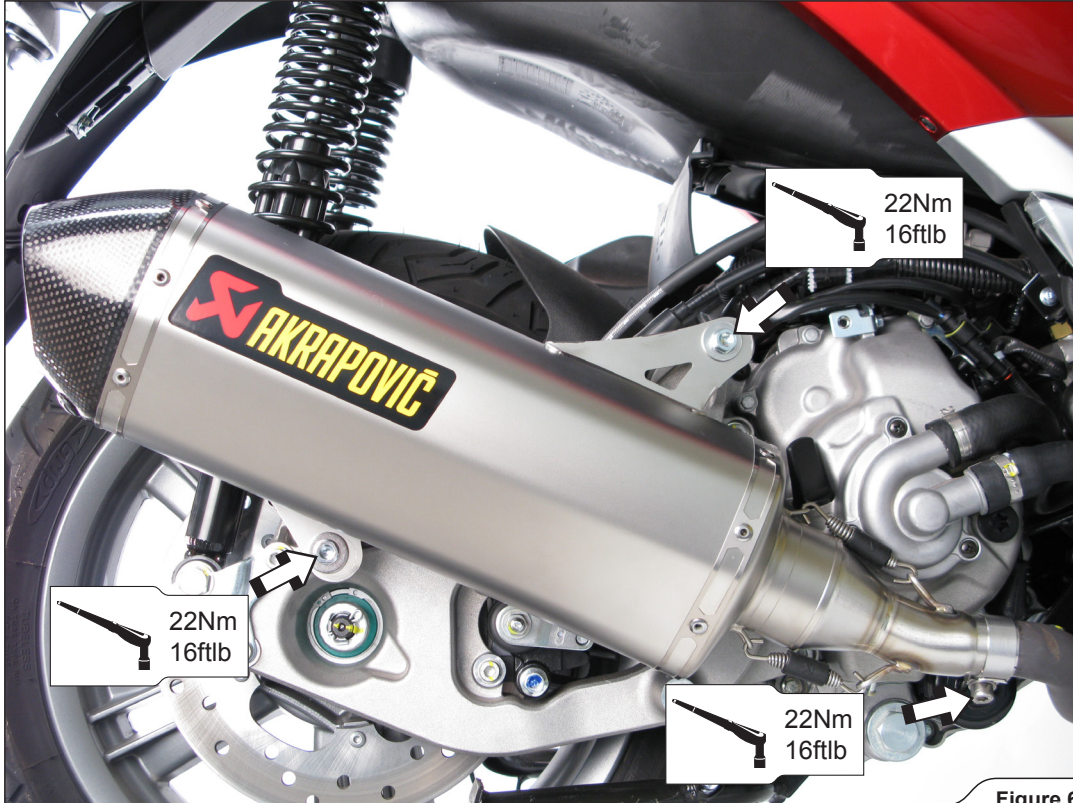

Figure 6
- 3. Position the muffler correctly, slide it onto the stock header pipe. Align the muffler in respect to the scooter and tighten the muffler, using Akrapovič bolts, washers and aluminium distance bush. Tighten the metal clamp at the Akrapovič link pipe/stock header pipe joint to a specified torque (Figure 6, 7).